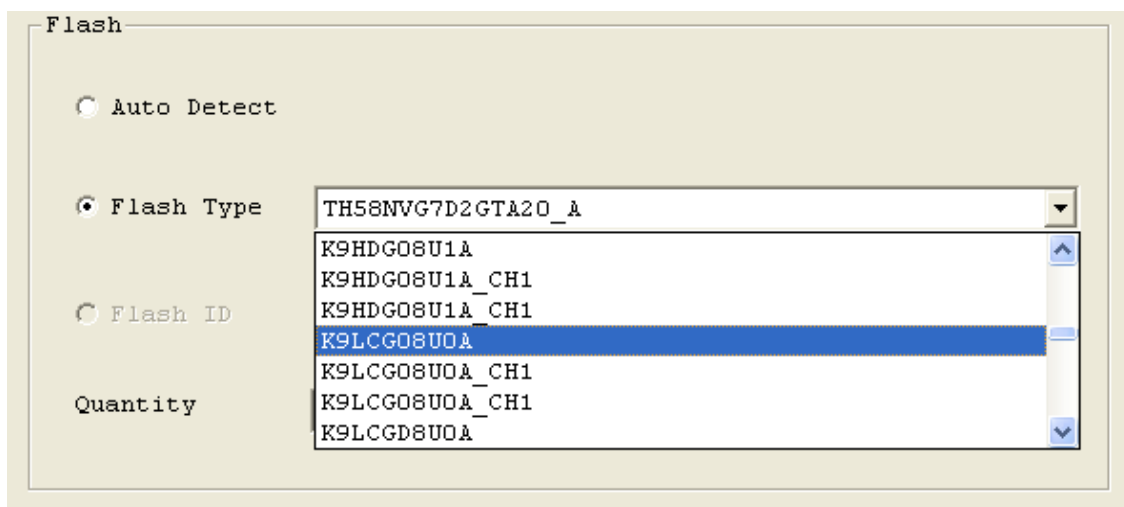

Figure-21 : Fixed Flash Type
2. Fixed Flash Type: User can fix flash type by enabling Flash Type. (Figure-21) In this mode, MPTool products UFD by fixed setting. If flash ID does not match, error occurs and MPTool stops the production of the UFD.